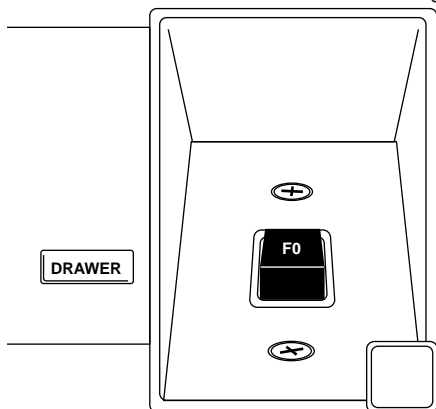

Figure 2-1: The F0 cuvette in the cuvette port
Cuvette **F0** must be inserted so that when you stand in front of the instrument the **F0** label is facing you, such that the opaque walls block the beam. See Figure 2-1: The F0 cuvette in the cuvette port on page 10.
4. Place cuvette standard F0 in the cuvette port, aligning it so that when you stand in front of the instrument the F0 label is facing you. See Figure 2-1.